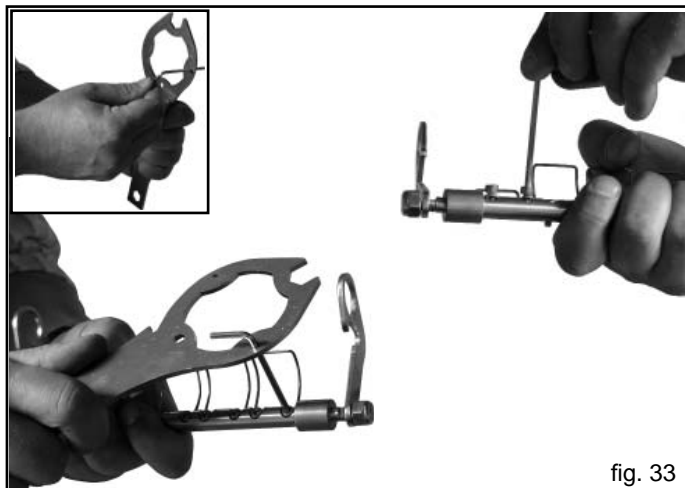

fig. 33
- 5) Use the supplied multi-purpose wrench and an Allen wrench (no. 3) to loosen the fastening screws of the spring elements as shown in Figure 33.